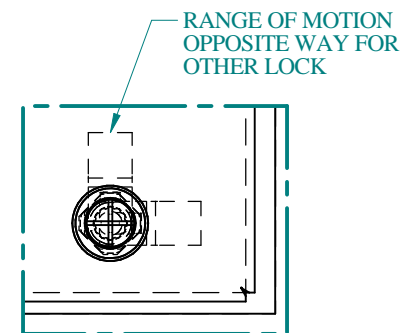

FIG. 6
- Ensure latches rotate as shown. (Fig. 6)